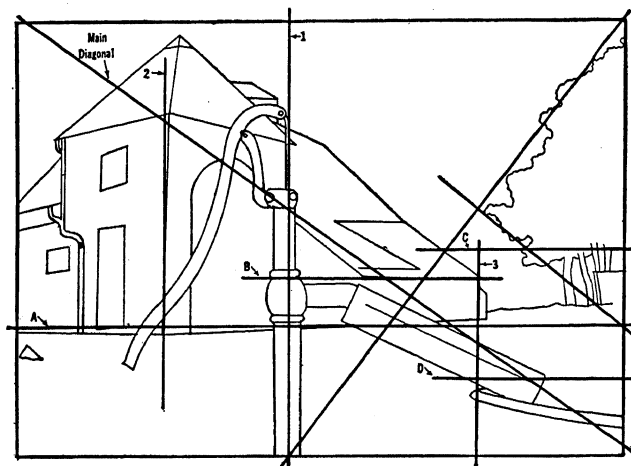

FIG. 26. COMPOSITION DIAGRAM FOR ILLUSTRATION 2. DESCRIBED IN TEXT
Illustration 2 shows some good composition and some that is faulty. The picture is diagramed in Fig. 26, and may be described
*Zeiss Ikon Camera, Verichrome film, 1/25 sec., f:16. See Figure 26.*